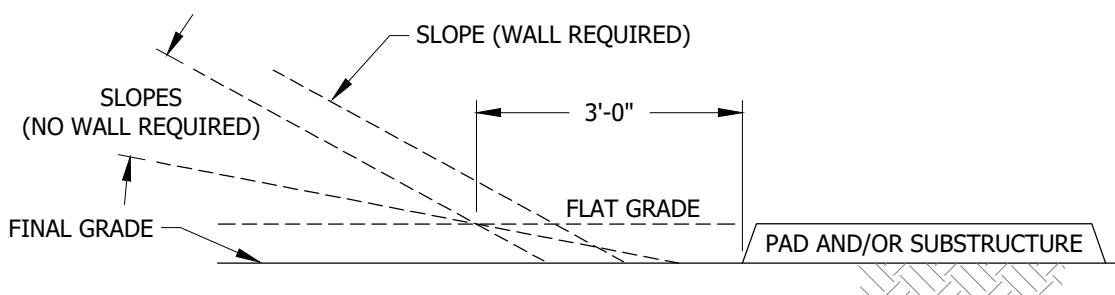

FIGURE 1
- (A) WALLS ARE REQUIRED WHEN SLOPE COMES WITHIN THREE FEET OF A FLAT GRADE ADJACENT TO A PAD OR SUBSTRUCTURE. THE FLAT GRADE IS ESTABLISHED FROM THE TOP OF A PAD. SEE FIGURE 1.
- (C) MINIMUM OPERATING CLEARANCE REQUIREMENTS SHALL PREVAIL WHEN HOT STICK OPERATION OF LOADBREAK EQUIPMENT IS REQUIRED. (a)
- (D) WALLS ARE REQUIRED WHEN SLOPE COMES WITHIN TWO FEET OF A FLAT GRADE ADJACENT TO A PAD OR SUBSTRUCTURE. THE FLAT GRADE IS ESTABLISHED FROM THE BOTTOM OF A PAD.
- (F) SAFETY FENCING SHALL BE INSTALLED WHEN REQUIRED BY CITY OR COUNTY CODES.